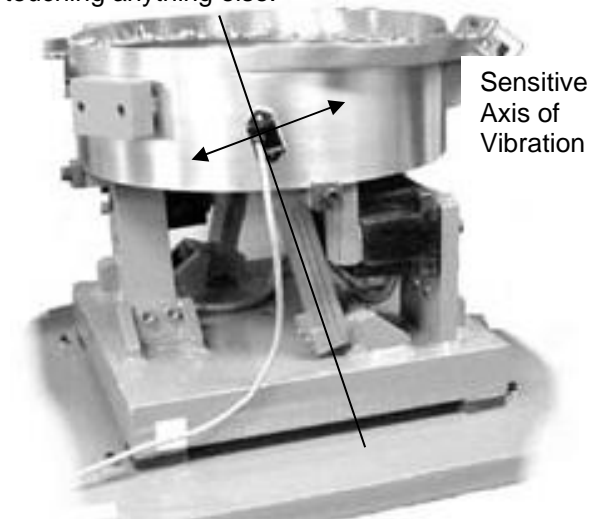

Fig. 2 The arrow shows the direction of vibration which is at a right angle to the spring pack.
**A. ORIENT THE SENSOR** so that its sensitive axis is in the same direction as the vibration of the feeder. The arrow in figure 1 shows the sensor’s sensitive axis. Align the sensitive axis of the sensor in the same direction as the vibration (see figure 2). The sensor must be oriented correctly for proper operation.
Use a cable tie and an adhesive-backed mount to attach the sensor cable to the side of the drive base. See Figure 2. Clean the mounting area before applying the adhesive-backed mount.